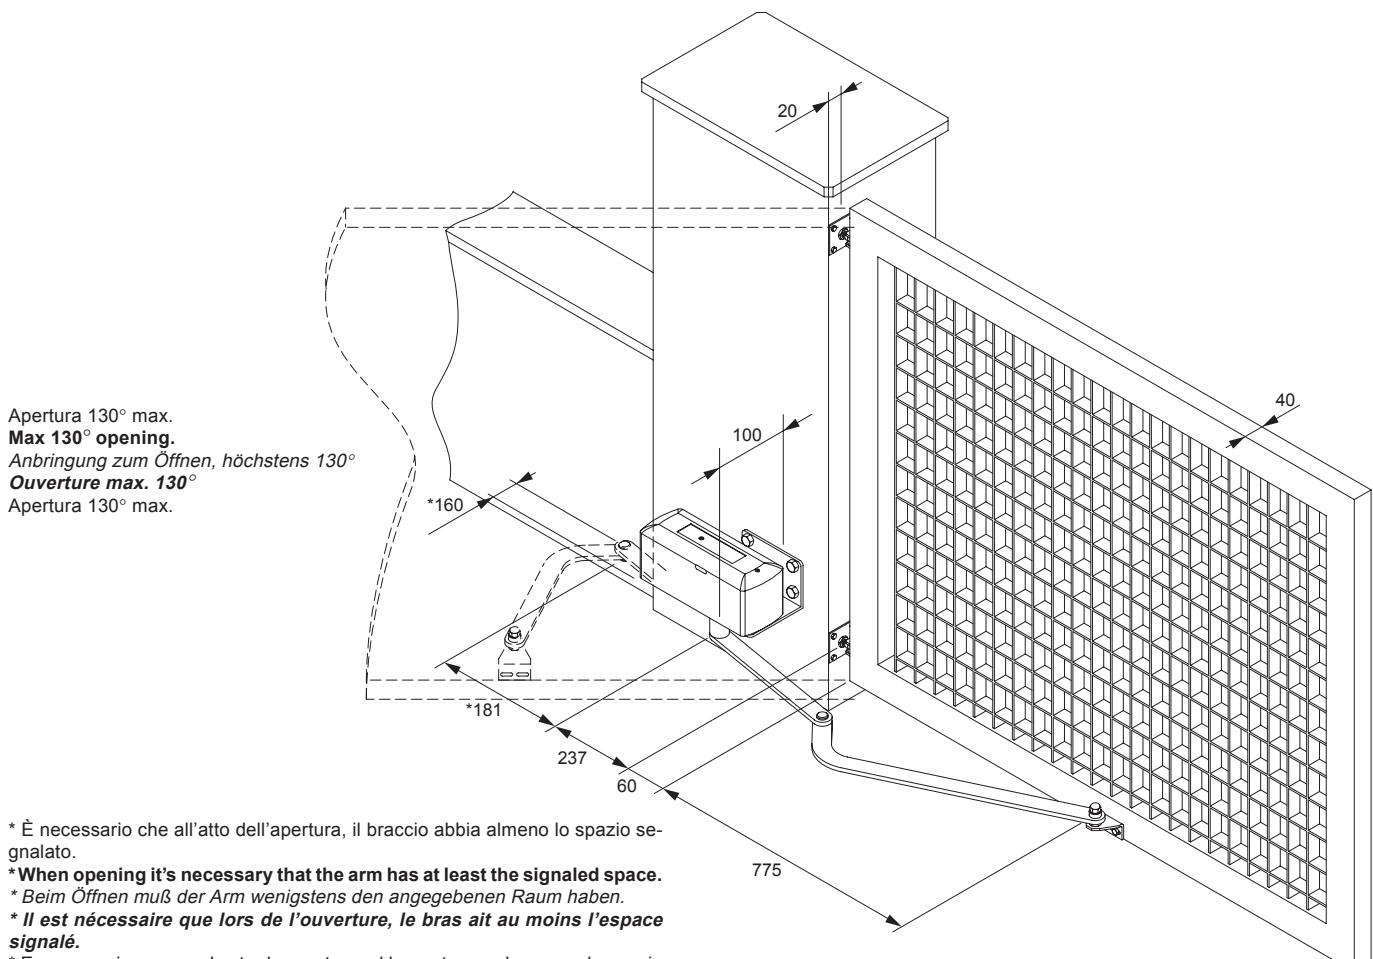

Fig.7
6.2 Application suitable to max 130° opening (fig. 7).